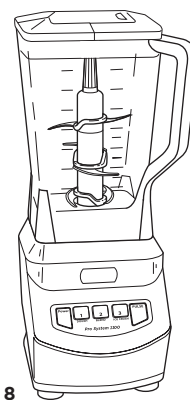

Fig. 8
- 2 Add the ingredients and secure the pitcher lid onto the pitcher. (Fig. 8)